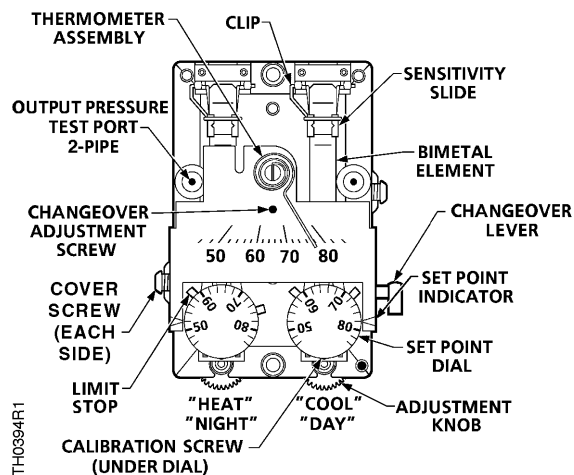

Figure 6. TH 192 DN & DNV Thermostat Details.
2. Place a screwdriver in the center of the thermometer assembly (Figure 6). Carefully rotate thermometer assembly until pointer tip indicates the correct room temperature.